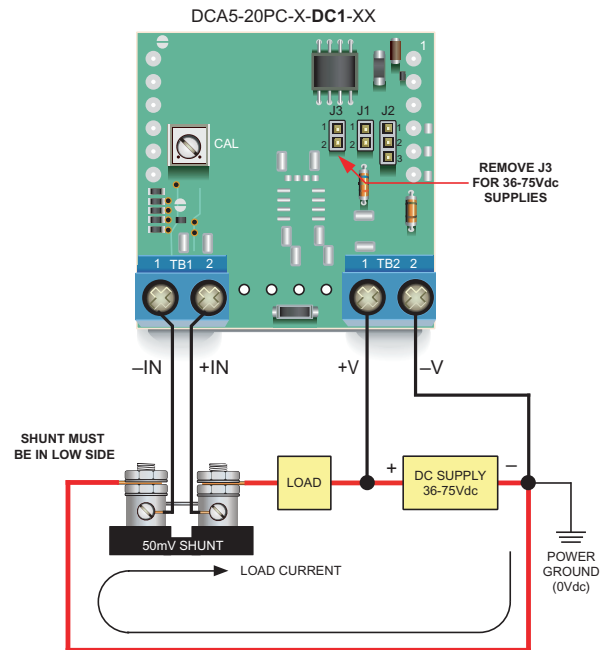

Figure 3. Low-Side Shunt Connections for "-DC1" Models Modified for 36-75Vdc Non-Isolated Power (See Technical Note 5)
5. **Operation With 36 to 75Vdc Power:** As shipped, all ‘-DC1’ models’ rated operating supply range is +5 to +40Vdc. However, ‘-DC1’ models can be user configured for 36 to 75Vdc operation by removing (opening) jumper J3. Please note that this user modification can only be performed on ‘-DC1’ power models. Also, all ‘-DC1’ models – including those that have been modified for 36-75Vdc operation – can only be connected in low-side, grounded-shunt applications. See Figure 3 for detailed wiring information. Any reconfiguration of J3 must be made prior to connecting the power supply and shunt to the ammeter.